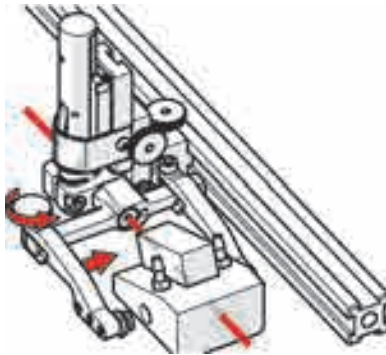

Figure 4-54 Adjust outer arm
2. Loosen the probe holder arm adjustment knob (see Figure 4-54 on page 137), and slide the probe holder arm along the yoke, pinching the wedge in place.